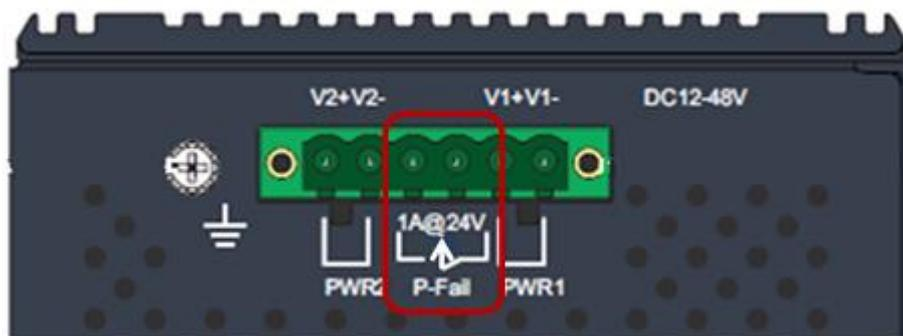
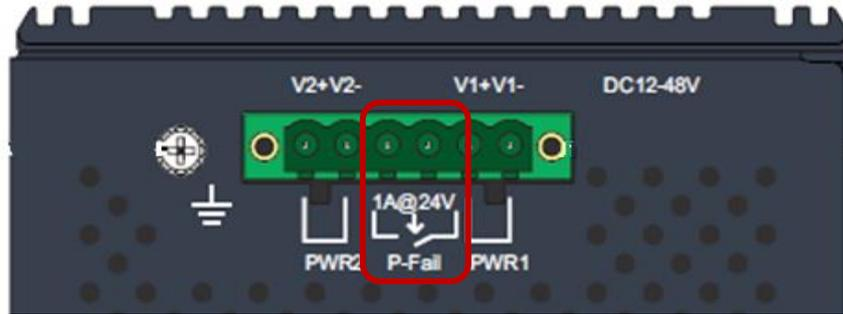

Figure 1. *P-Fail* graphic expression (Close)
Figure 2. P-Fail graphic expression (Open)
P-Fail relay has two action modes. Users can distinguish it by expressions on switches, and please refer to the **Figure 1** and **Figure 2**.
1. As the expression of figure 1 describes, the arrow directs inward of the *P-Fail* which means the relay circuit is *CLOSED* when *P-Fail* is triggered.
- As the expression of **Figure 2** describes, the arrow directs outward of the P-Fail which means the relay circuit is *OPENED* when P-Fail is triggered.